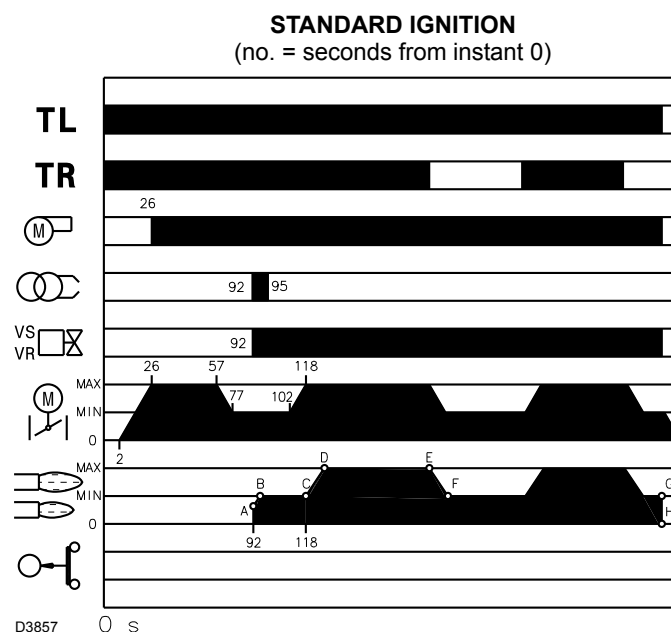

Fig. 33
- 92s: Ignition electrode strikes a spark. The safety valve VS opens, along with the adjustment valve VR, quick opening. The flame is ignited at a low output level, point A (Fig. 33). Delivery is then progressively increased, with the valve VR opening slowly up to MIN. output, point B (Fig. 33).
Once the start-up cycle is completed, the servomotor command moves on to the TR thermostat/pressure switch that controls the pressure or the temperature in the boiler, point C (Fig. 33).
- If the temperature or the pressure is low, the reason why the thermostat/pressure switch TR is in the output request position, the burner progressively increases the output up to the MAX value (section C-D)(Fig. 33).
- If, then, the temperature or the pressure increases up to the TR switching, the burner gradually decreases the output down to the MIN value, (section E-F)(Fig. 33). The sequence repeats endlessly.